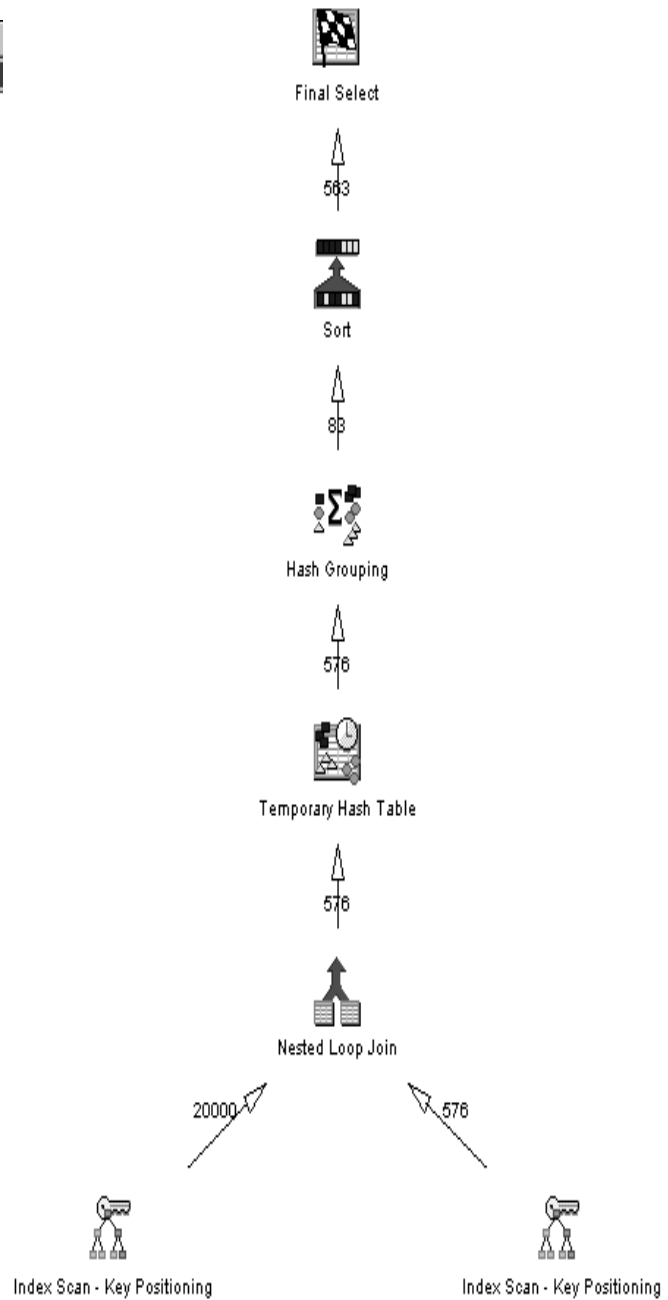

Figure 13. Comparison of job log and Visual Explain graph
- ___ 4. Close the Results viewer, and refresh the Job Log viewer. Analyze the graph and the job log as shown in Figure 13.